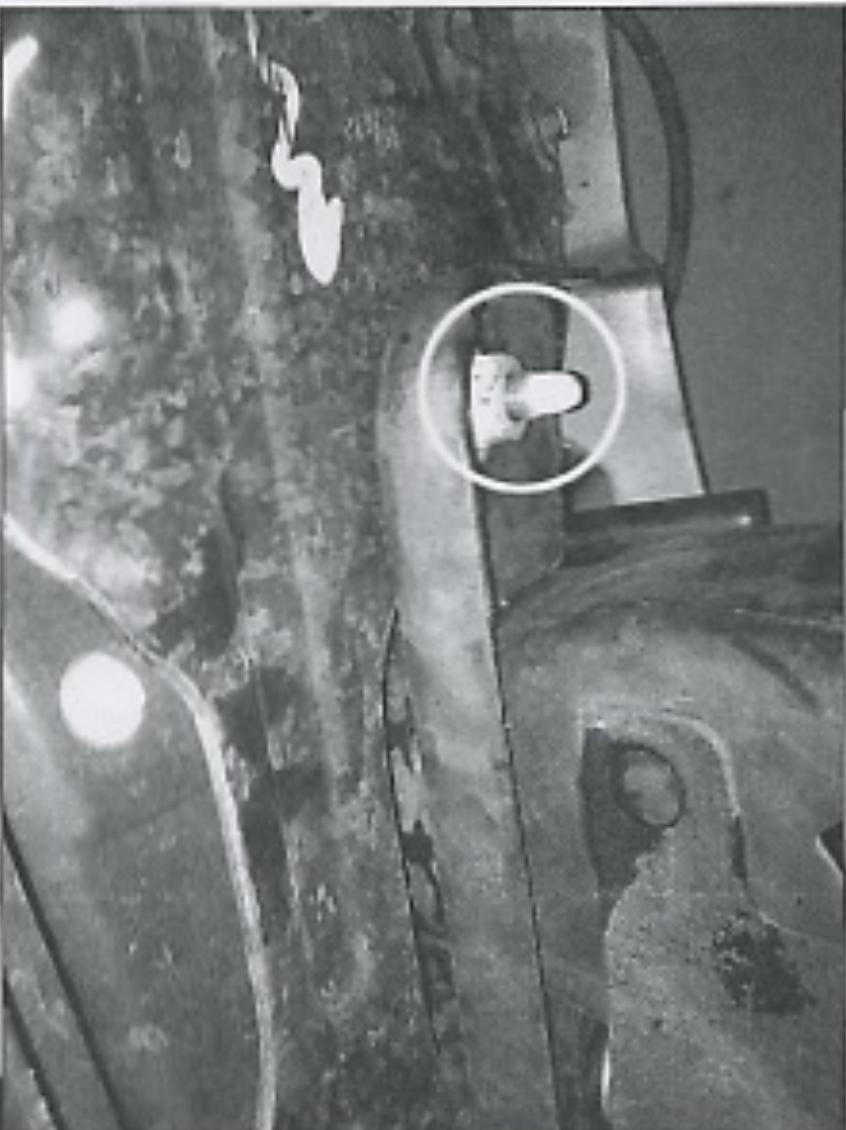

Fig 5
5. Remove (4) bolts that go through front bumper mount and the frame. These may be discarded (Fig 5).